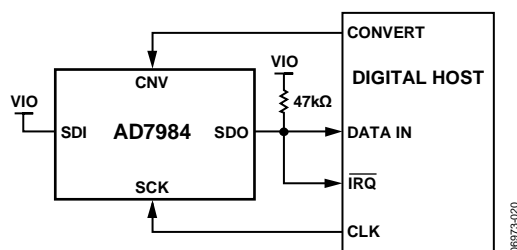
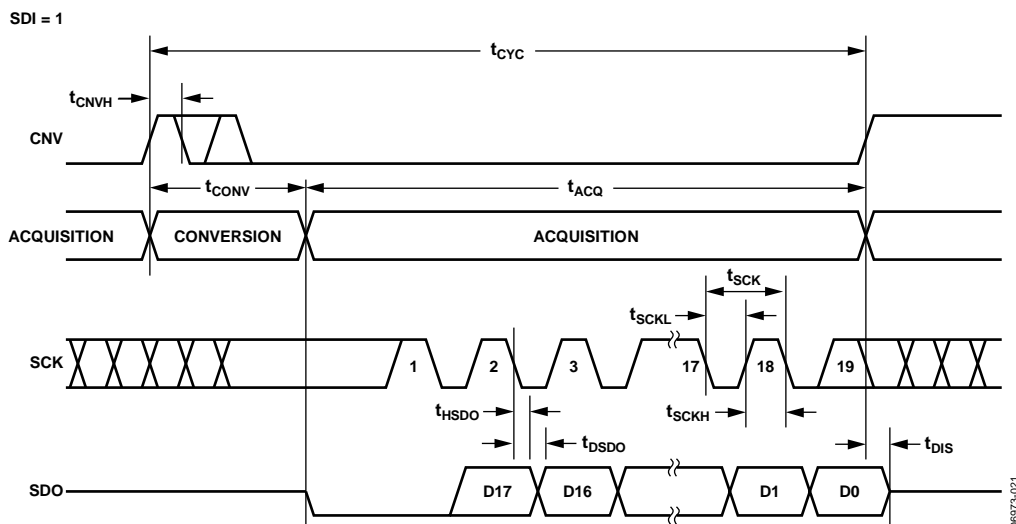
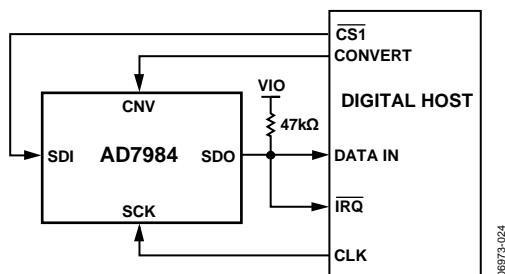
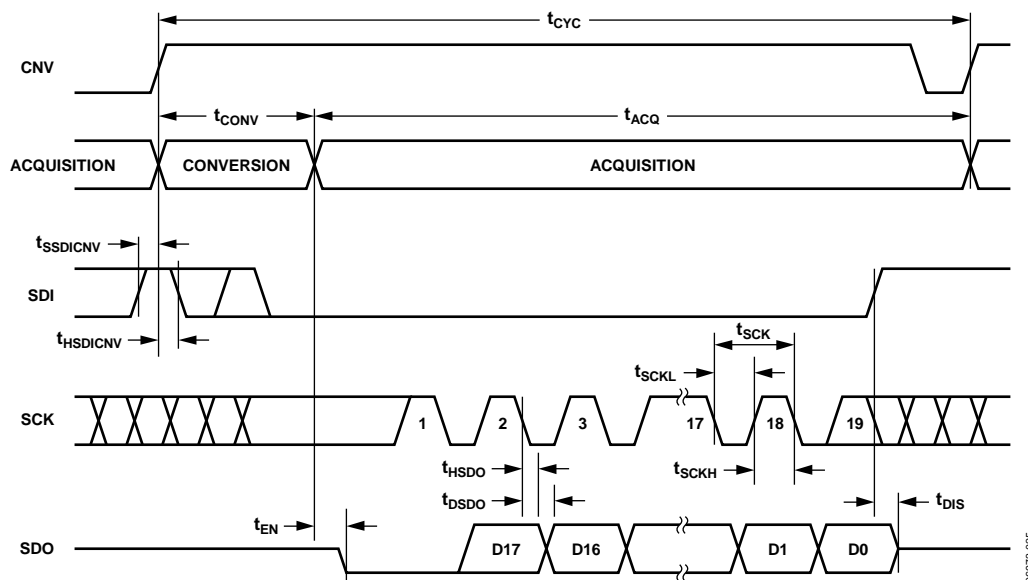

Figure 30. $\overline{\text{CS}}$ Mode, 3-Wire with Busy Indicator Connection Diagram (SDI High)
Figure 31. $\overline{\text{CS}}$ Mode, 3-Wire with Busy Indicator Serial Interface Timing (SDI High)
Figure 34. $\overline{\text{CS}}$ Mode, 4-Wire with Busy Indicator Connection Diagram
Figure 35. $\overline{\text{CS}}$ Mode, 4-Wire with Busy Indicator Serial Interface Timing
- In \overline{CS} mode if CNV or SDI is low when the ADC conversion ends (see Figure 31 and Figure 35).
The connection diagram is shown in Figure 30, and the corresponding timing is given in Figure 31.
The connection diagram is shown in Figure 34, and the corresponding timing is given in Figure 35.